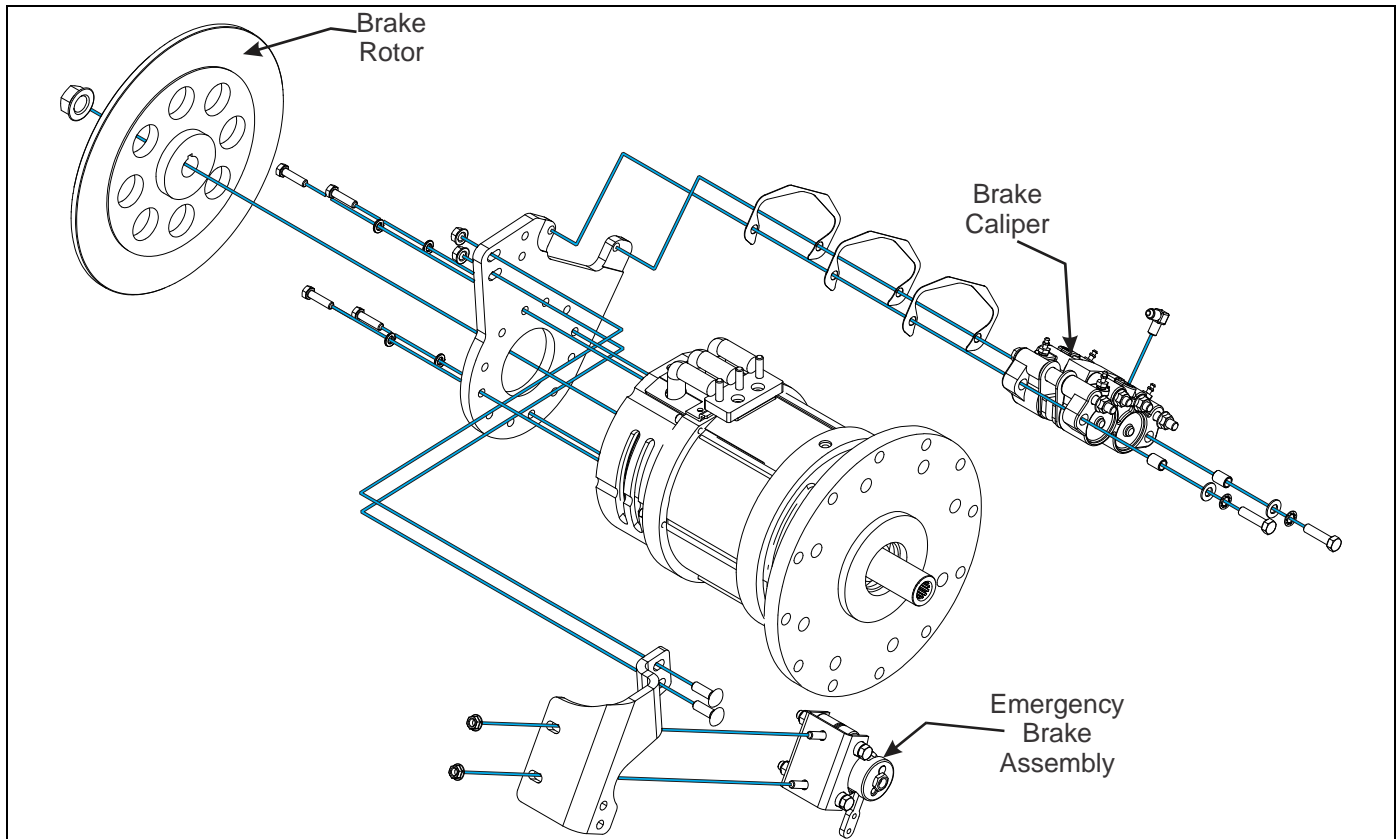

Figure 3-3: Brake Assembly
1. See Figures 3-3 and 3-4 for reference.